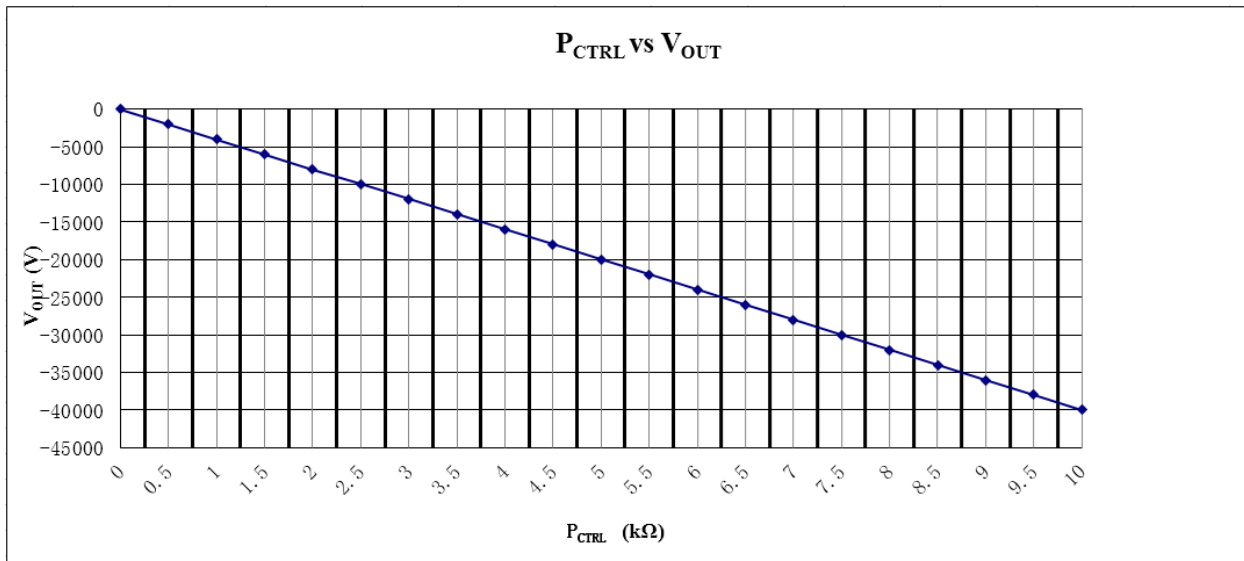

Figure 4. P_CTRL VS. V_OUT
5. HV adjustment: 10-turn potentiometer for adjusting output voltage. Rotate it clockwise to increase the output voltage, and the potentiometer resistance = the corresponding scale \times 10 Ω . For example, as Figure 4 shows, when the scale is 10, and the frame above the scale shows 1 (1k Ω), then the resistance = $10 \times 10\Omega + 1k\Omega = 1.1k\Omega$, and the like.